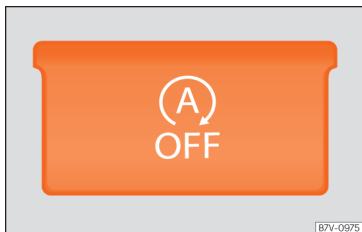

Fig. 236 Detailed view of the centre console: Start-stop operation button.
- To manually switch on/off the Start-Stop system, press the  button » **Fig. 236**.